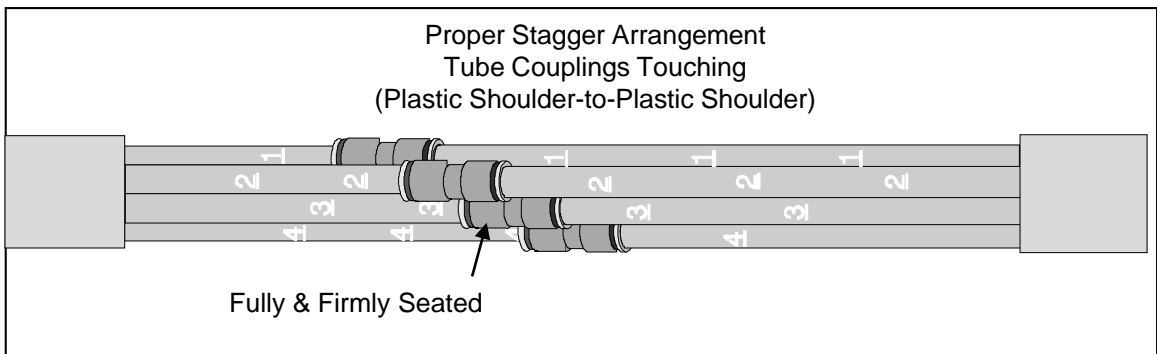

Figure 5
7.4 Be sure to accomplish Tube Coupling "Unique" stagger arrangement at each splice point as described in SRP SP-F04-016. This arrangement places the plastic shoulder of one Tube Coupling against the plastic shoulder of an adjacent Tube Coupling. This arrangement is necessary to prevent a Tube Coupling from being pressed into and possibly compressing / kinking an adjacent bare tube when the shrink sleeve is collapsed. **See Fig. 5.**